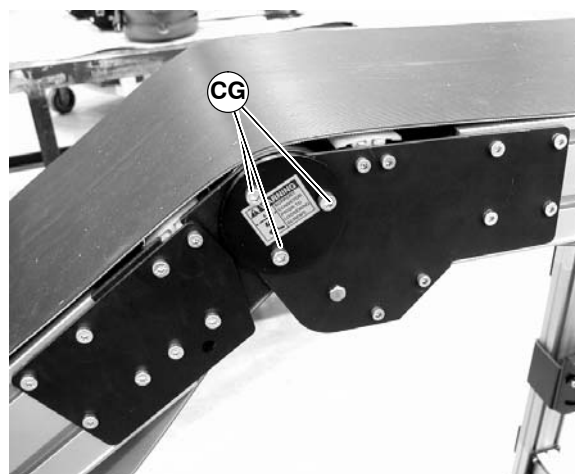

Figure 54
2. Loosen screws (CG of Figure 54) on both sides of knuckle.
4. Tighten screws (CG of Figure 54) on both sides of knuckle to 100 in-lbs (12 N-m).